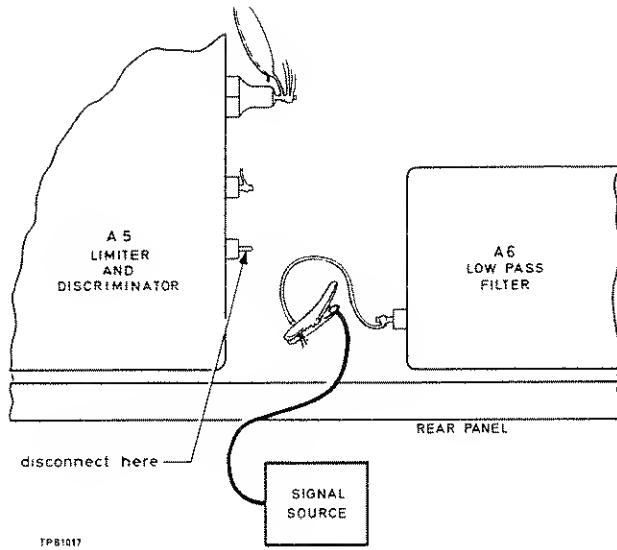

Fig. 5.3 Location of discriminator output lead
(1) Connect the r.m.s. voltmeter and the oscilloscope to the OUTPUT socket.
(2) Turn the OSCILLATOR switch to EXT.
(3) Connect the 1.5 MHz crystal oscillator to the RF IN socket and turn the FREQUENCY RESPONSE switch to NOISE.
(4) Turn the FUNCTION switch to SET FREQ FM and check that the meter deflects to the SET mark.
(5) Turn the FUNCTION switch to TUNE and adjust the LEVEL control to bring the meter reading to the top end of the black arc.
(6) Turn the FUNCTION switch to SET CAL and adjust the r.m.s. voltmeter range switch to give a convenient reference level. Note this reference level.
(7) Turn the FUNCTION switch to DEV+ and the MODULATION RANGE switch to 5 kHz. Increase the external voltmeter sensitivity and check that the reading is at least 55 dB below the reference level, i.e. -75 dB relative to the level of 50 kHz deviation. If satisfactory, then noise is not due to the discriminator or l.f. circuits but may be due to the oscillator or the power supply.
(8) If not satisfactory, remove the yellow lead from the discriminator output, A5 pin 4 (see Fig. 5.3) and check that the noise level drops to at least -68 dB. A high noise figure can be improved by selection of transistors VT3, VT4, VT5 (most prone to cause noise) and VT6 in the discriminator (A5). The noise display on the oscilloscope should be free of any ripple or hum components, if these are present suspect unit A13, IC3 and IC4 (-18 V and -12 V regulators).